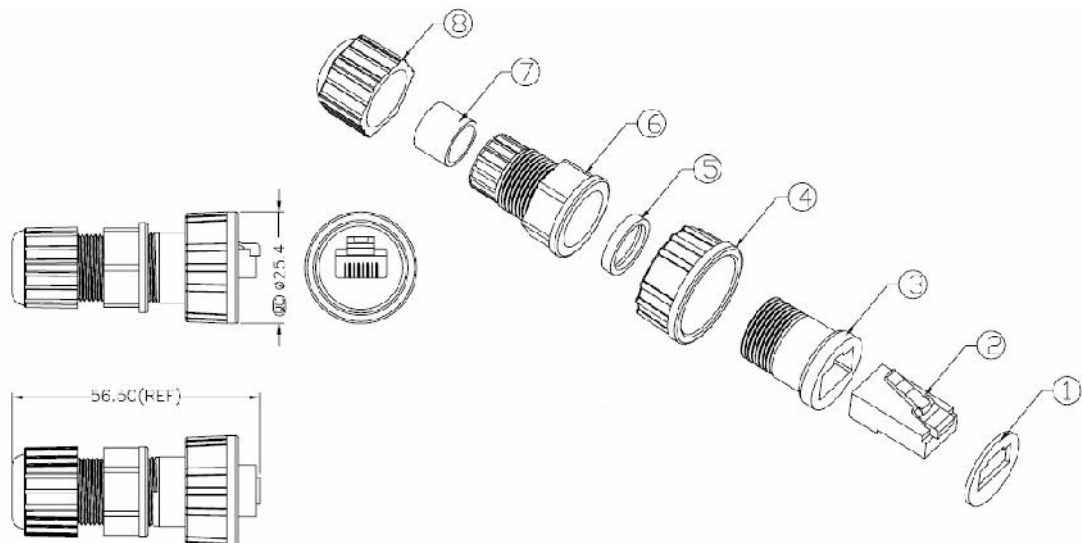

Figure C-1 Rubber boot for CAT5 Cable
As mentioned in the Installation chapter, Aperto recommends industrial CAT 5e cable which meets the ANSI/TIA/EIA 568B.2 Category 5e Standard. In the event that the above mentioned cable is not available, you must use the included rubber boot, and use only Industrial CAT5e cable which meets or exceeds ANSI/TIA/EIA 568B.2 Category 5e standards that do not exceed 7.8 mm OD. Product warranties will be void if these specifications are not met. Figure C-1 displays the parts of the rubber boot in an assembly, while Table C-4 lists the name and description of the parts,
1. As shown in Figure C-1, slide the Sealing Nut (8), Seals (7), Clams Ring (6), Gasket (5), Screw Nut (4) and Body (3) in to the CAT 5e cable.
2. Strip the cable and crimp in to the Plug (ethernet connector, 2) after attaching the Gasket (1) to the Body (3).
3. Plug the ethernet connector (2) and then turn the Screw Nut (4) to tighten.